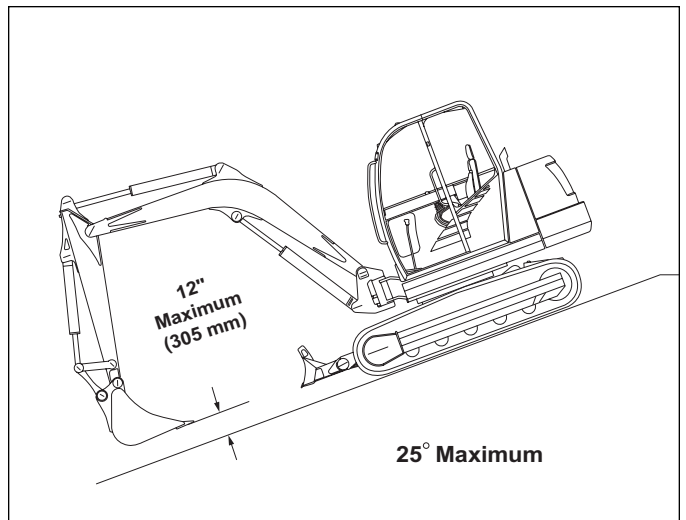

Figure 3-14. Travelling on a Slope Exceeding 15°
- When going down grades that exceed 15°, put the machine in the position shown in Figure 3-14. Run the engine slowly.